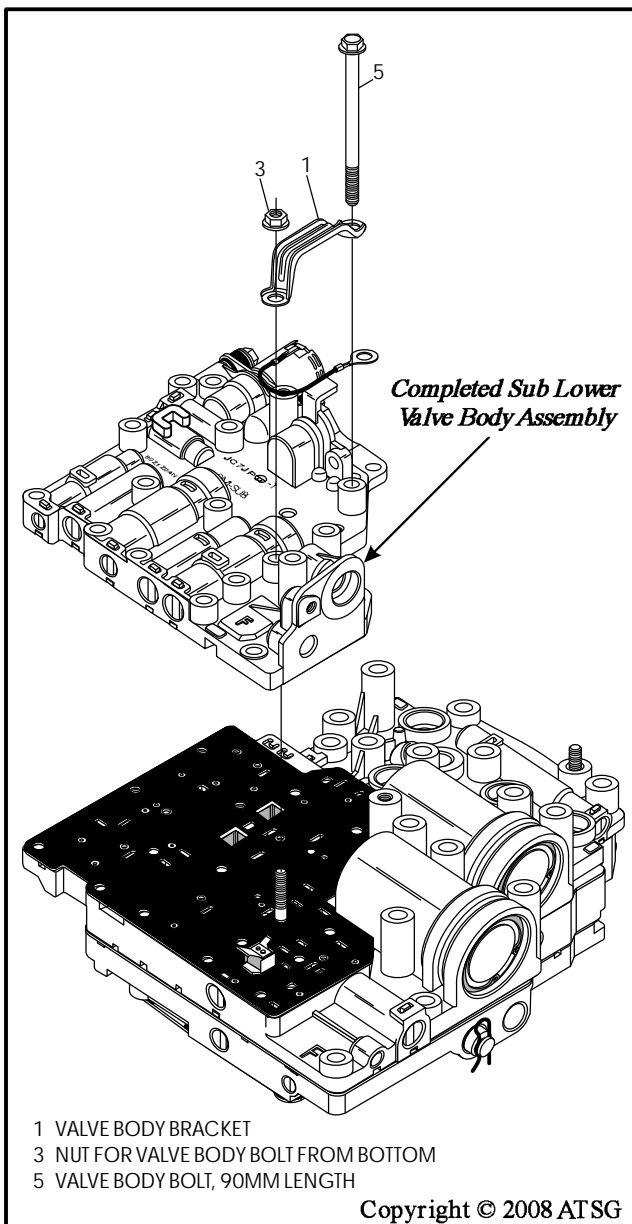

Figure 174
41. Install the completed sub lower valve body over the bolt and on top of spacer plate "A", as shown in Figure 174.
42. Install the valve body bracket over bolt and on top of the sub lower valve body, as shown in Figure 174.
43. Install 90mm valve body bolt through bracket, as shown in Figure 174, and hand tighten only at this time.
44. Install nut on the 90mm bolt coming through from the bottom, as shown in Figure 174, and hand tighten only at this time.